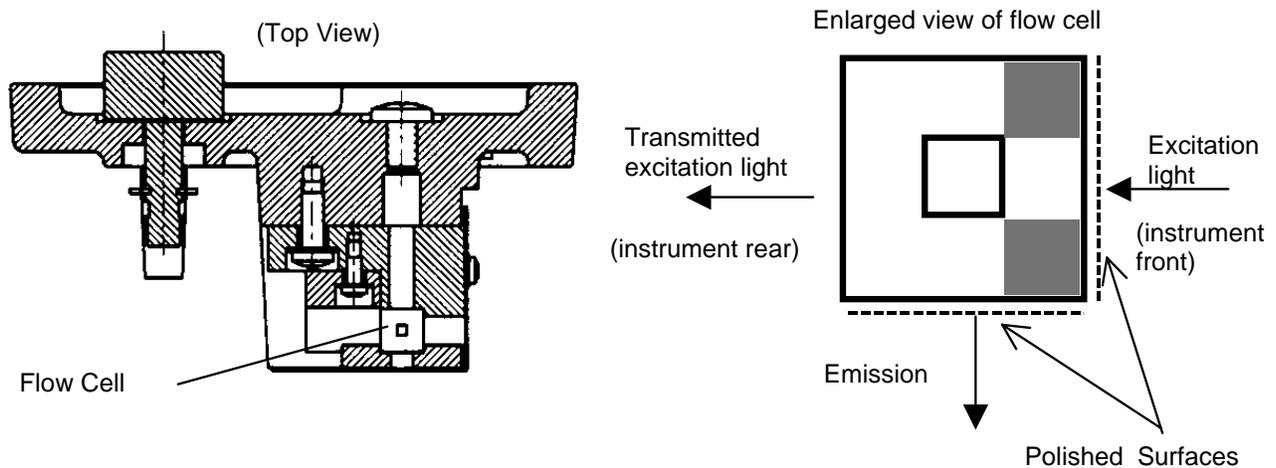

Figure 23 Assembly of Flow Cell Unit
1. Assemble the flow cell into the cell holder in the orientation shown in Figure 23 and fix it with the cell clamp.
NOTE 2: Be sure you properly position the flow cell when putting it into the cell holder. (See Figure 23.) A mistake in the orientation may preclude obtaining the proper performance from the instrument.